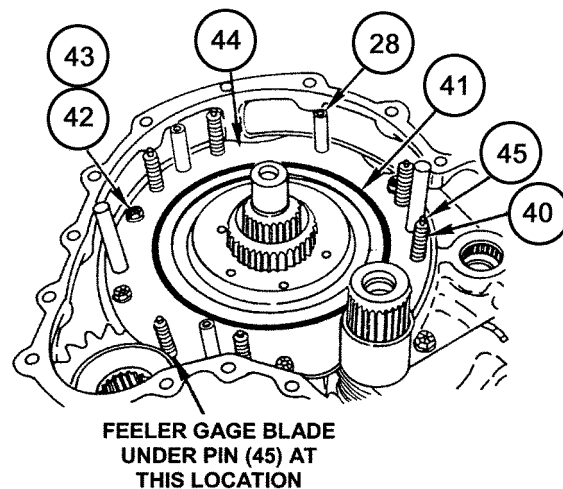

Figure 112. Brake Backing Plate.
When rubber bands are removed from holding six pins (45), one pin, (shown at location in Figure 112), will drop down. To aid in assembly, a (shim), feeler gauge must be placed under the pin to retain it in an upward position.
2. Install brake backing plate (44), along with pins (45). Remove Bands (WP 0024, Item 2). Place feeler gauge blade (shim) under one pin (45) (at location shown in Figure 112) to hold selected pin (45) upward until assembly is complete.
3. Install five washers (43) and five bolts (42) that retain backing plate (44).
4. Torque five bolts (42) to 36-43 lb-ft (49-68 N·m).
5. Install brake coolant seal (41).
6. Install four brake reaction pins (28).
7. Install six springs (40) over six pins (45).